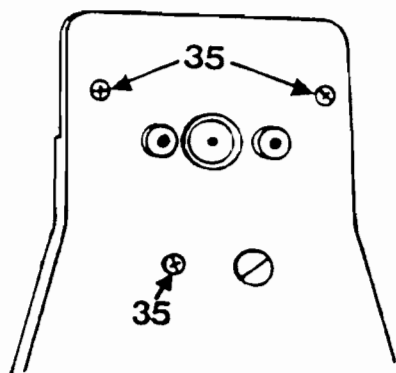

FIG. 12
Remove three screws at (35) Fig. 12.